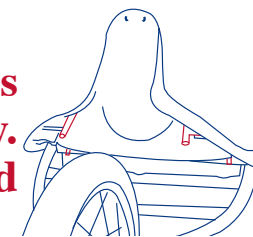
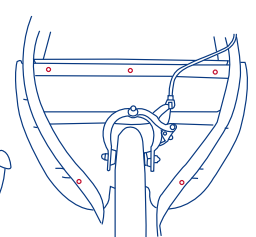
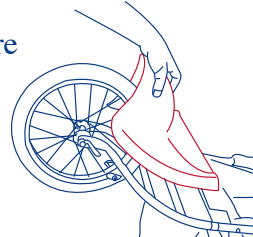
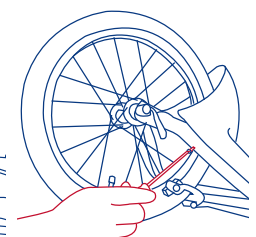

Figure 7a.
Figure 7b.
Figure 7c.
Figure 7d.
- The front fender is secured to the frame by the 5 screws provided. Examine the bottom of the front fender. You will notice four 1/4 inch diameter plastic tubes protruding from the bottom. See figure 7a. These tubes must be lined up with the holes in the front frame assembly. See figure 7b. Line up the front fender and press onto the front frame assembly. See figure 7c. Insert the 5 screws through the underside of the front frame assembly into the front fender's plastic tubes. Tighten the screws only until snug. See figure 7d.